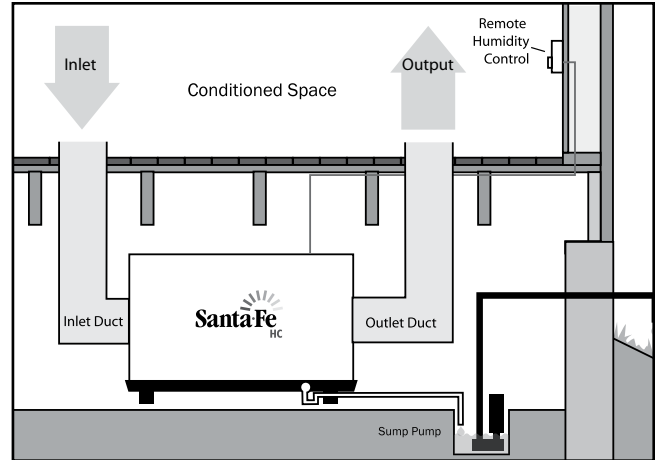

Figure 3: Installation in a remote area with ducted inlet and outlet
3.1C In A Remote Area, Duct Inlet & Outlet (fig. 3)